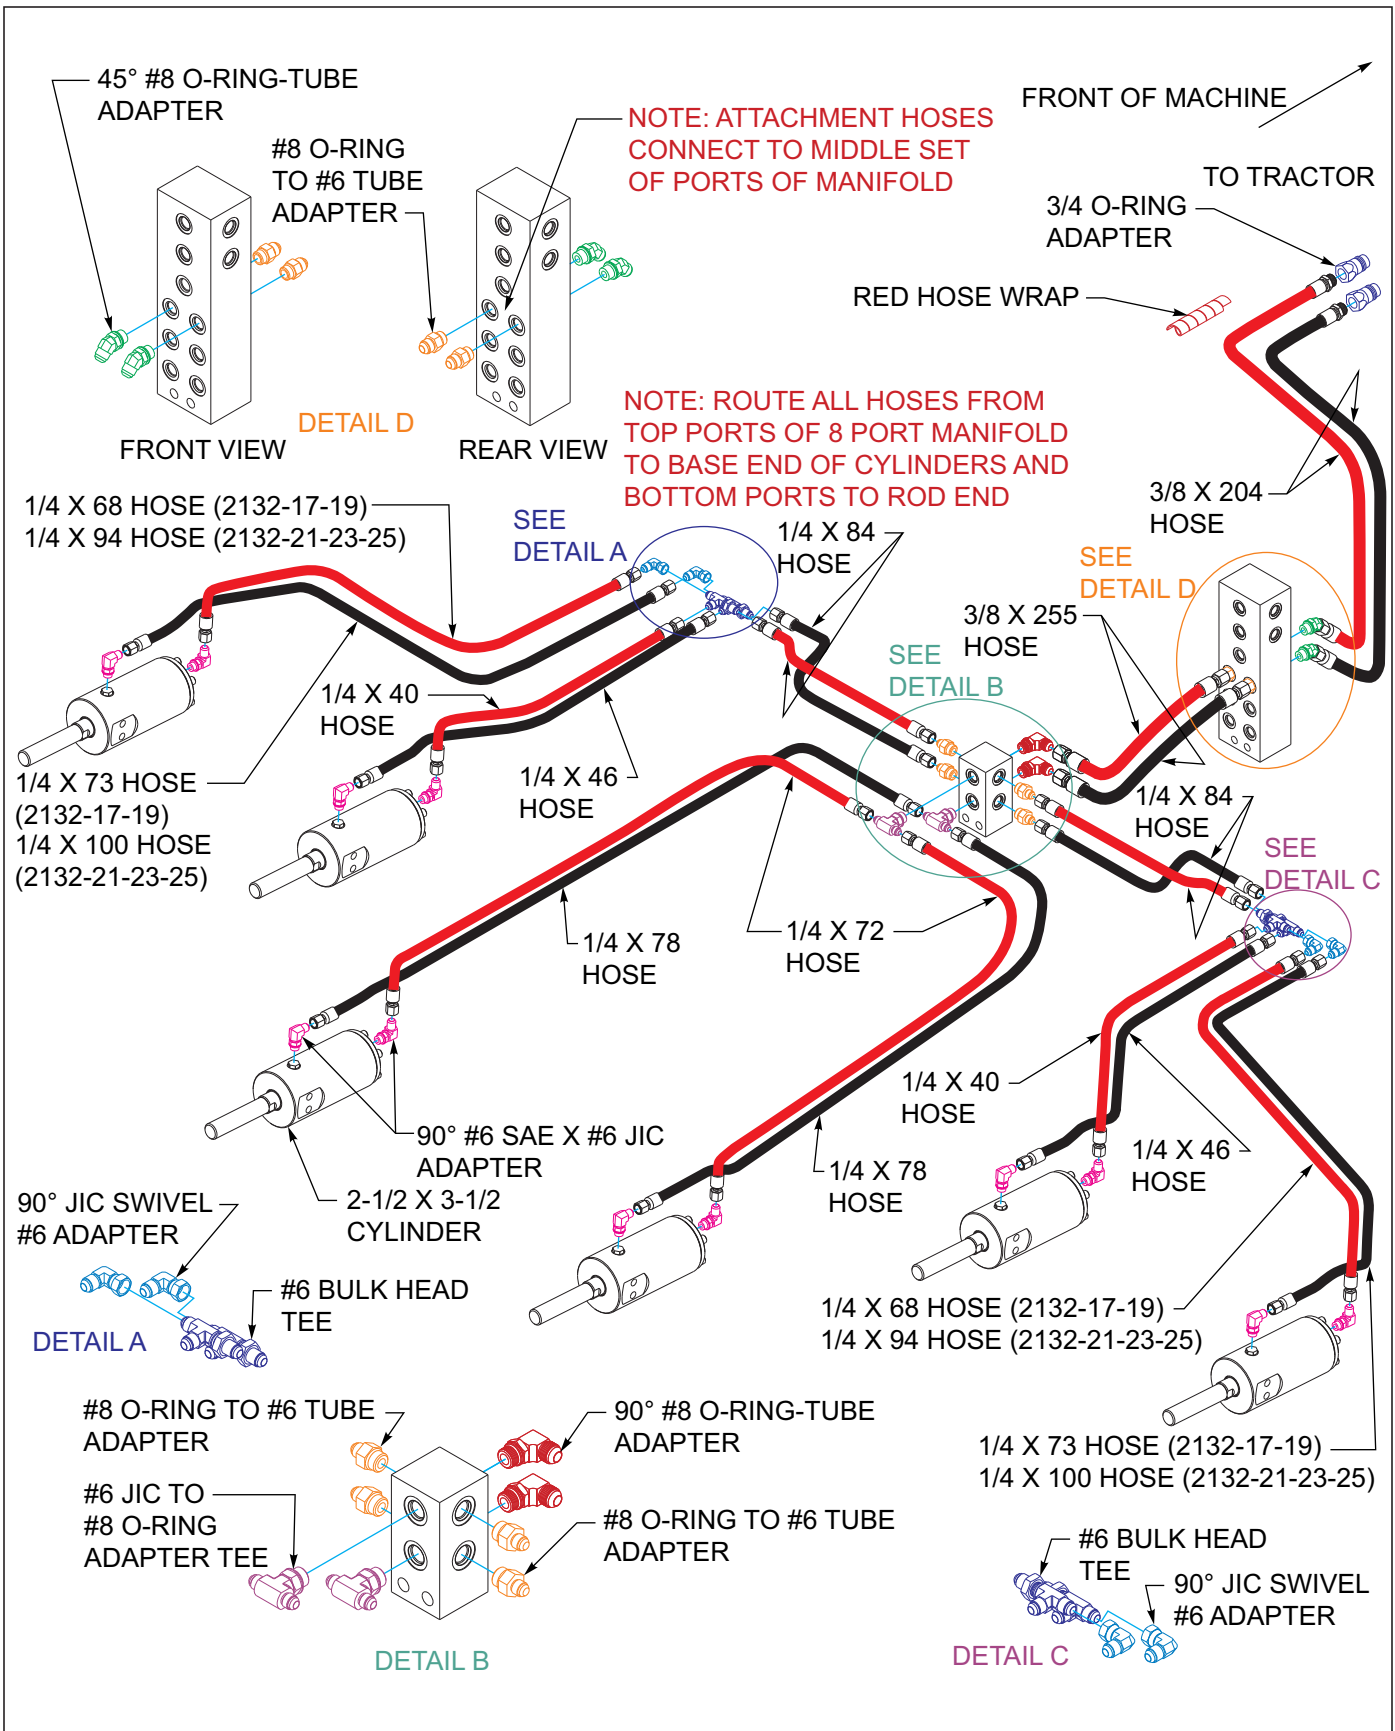
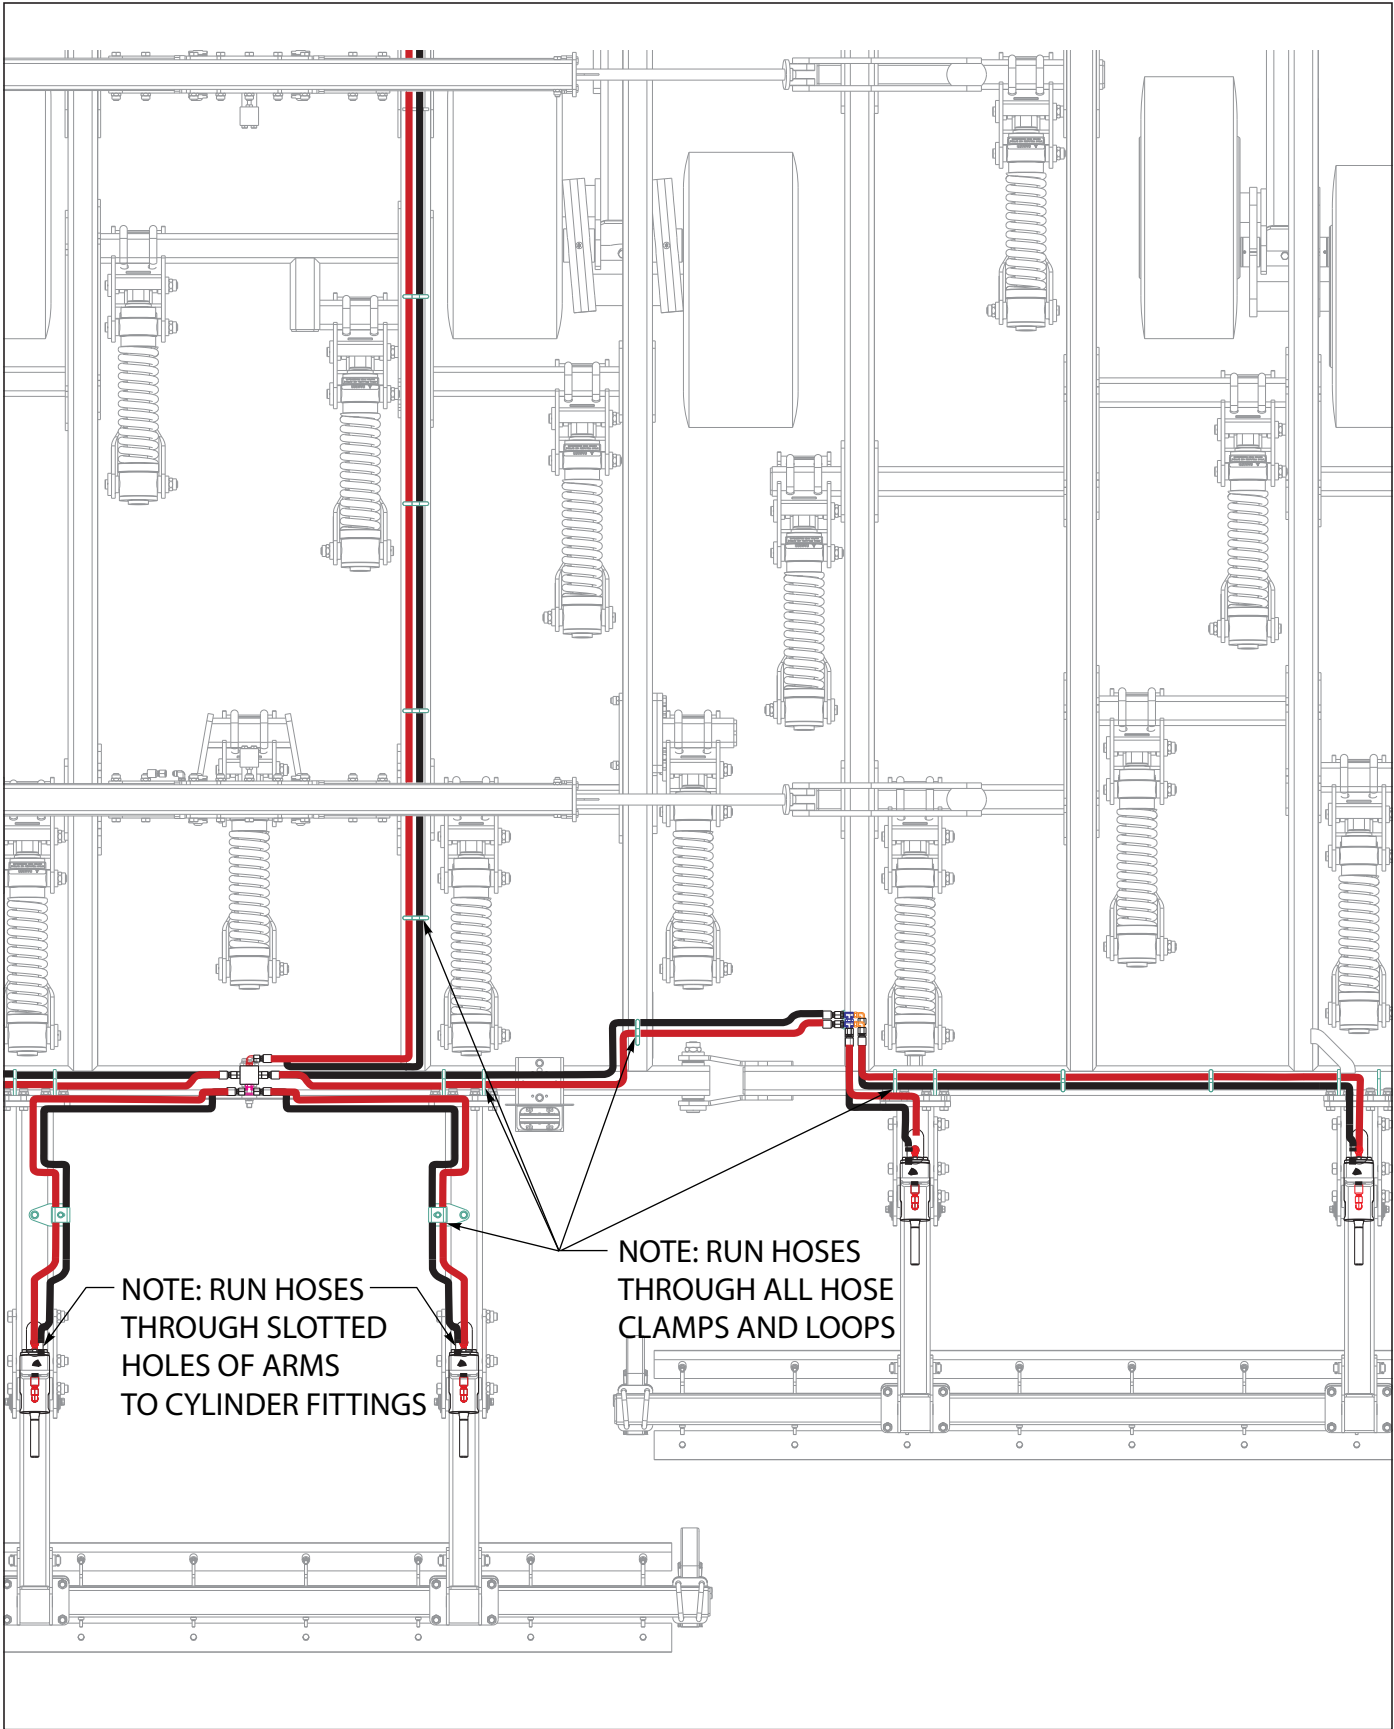

Figure 3-34: Chopper Hydraulic Installation
Figure 3-36: Chopper Hydraulic Layout RH
8. On hydraulic Chopper Reel option, *See Figures 3-34 through See Figures 3-36* for proper hydraulic installation.